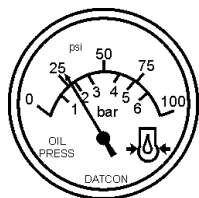

Figure 49. Oil Pressure Gauge
13. The engine oil pressure gauge (Figure 49) will indicate the oil pressure (kg/cm²) of the engine. Under normal operating conditions the oil pressure is approximately 25 psi.